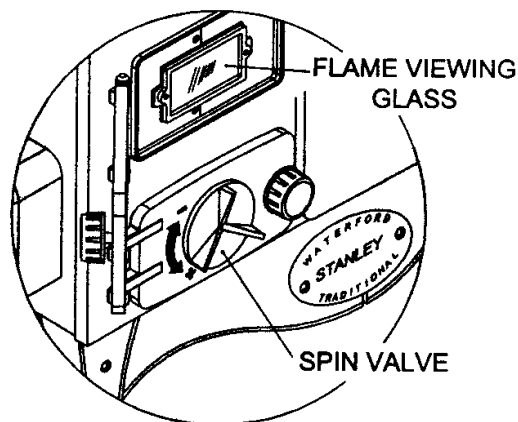

Fig.26
9. Adjust the spin valve opening until a blue flame with yellow tip is obtained around the outer shell. (See Fig. 26). The spin valve should be set for an opening of approximately 6mm. (This may vary slightly depending on flue draught performance).